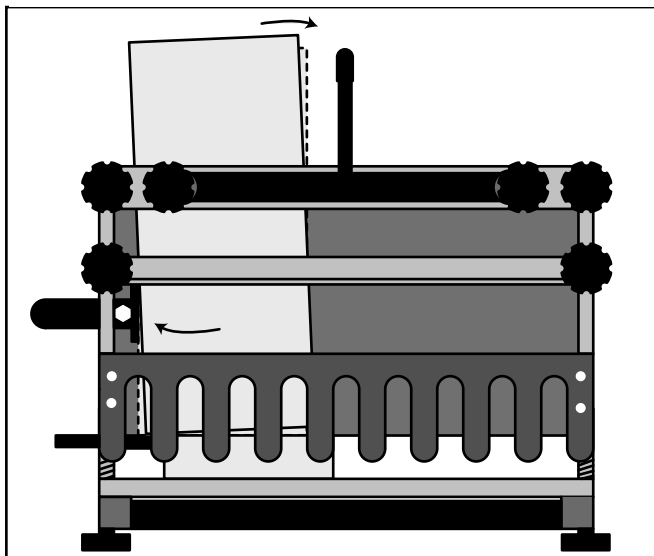

Figure 30. The wood stock must be clamped parallel to one another and tight against the side stops.
1. The drawer edges are not parallel to the front of the template. See **Figure 30**.